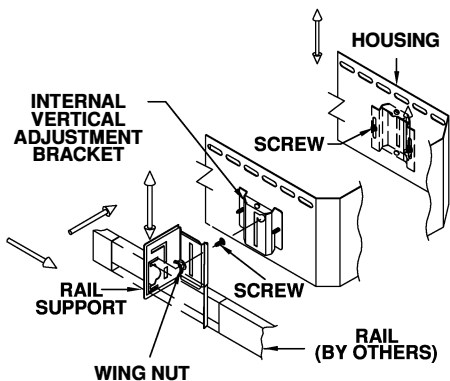

Fig. 6
- 6 Adjust fixture so aperture frame is flush with finished tile face or 1/16" above. Do not allow aperture frame edge below tile face or more than 1/16" above. Tighten rails to ceiling grid permanently. (See Fig. 6)
### CORRECTIVE ADJUSTMENT (Fig. 6)